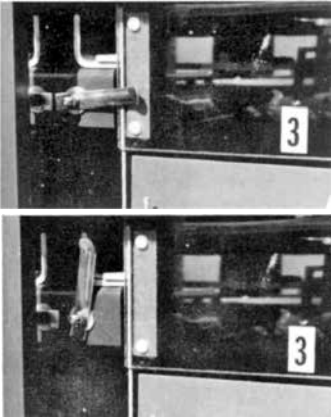

Figure 5
4. Rotate barrier retaining latches to vertical position. (Figure 5)